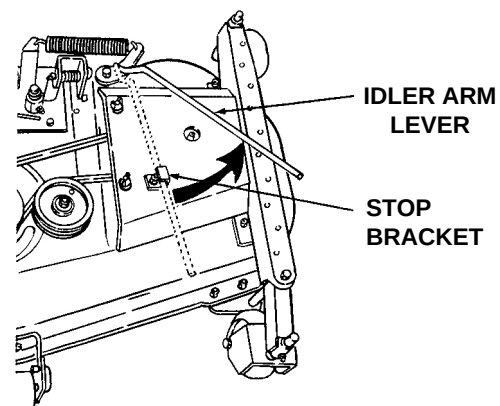

Figure 42
3. Lower the mower deck by moving the implement lift handle to its lowest setting. Disengage the deck idler arm lever from its stop bracket and release the spring tension by rotating the lever out and rearward (Refer to Figure 42).